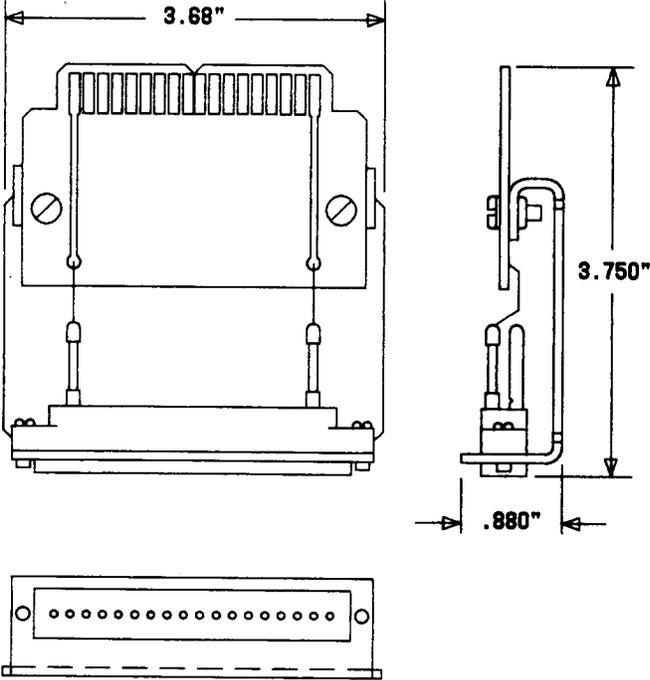

Fig. 3—19A Extender
2.08 **19A:** The 19A extender (Fig. 3) is used to extend the 172A regulator in the J86834B ringing and tone plant for zone 16 extended zone ringing. Two extenders are required per regulator. This extender consists of a printed wiring board assembly and a KS-21244, L1, connector attached to a bracket assembly.